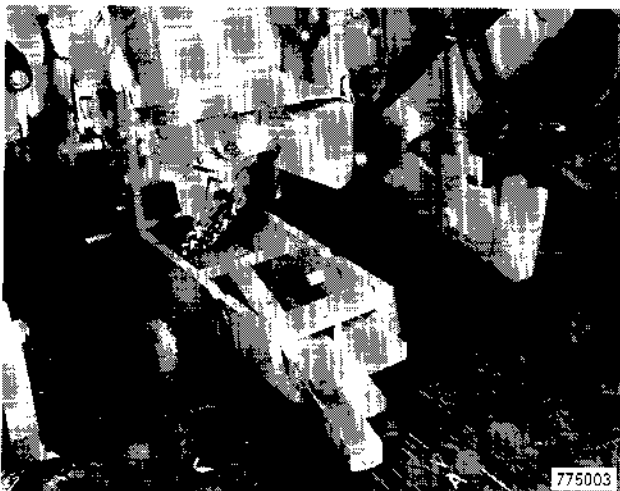

Figure 4
4. Remove nuts and bolts from rear mounting bracket and remove drawbar, Figure 4.